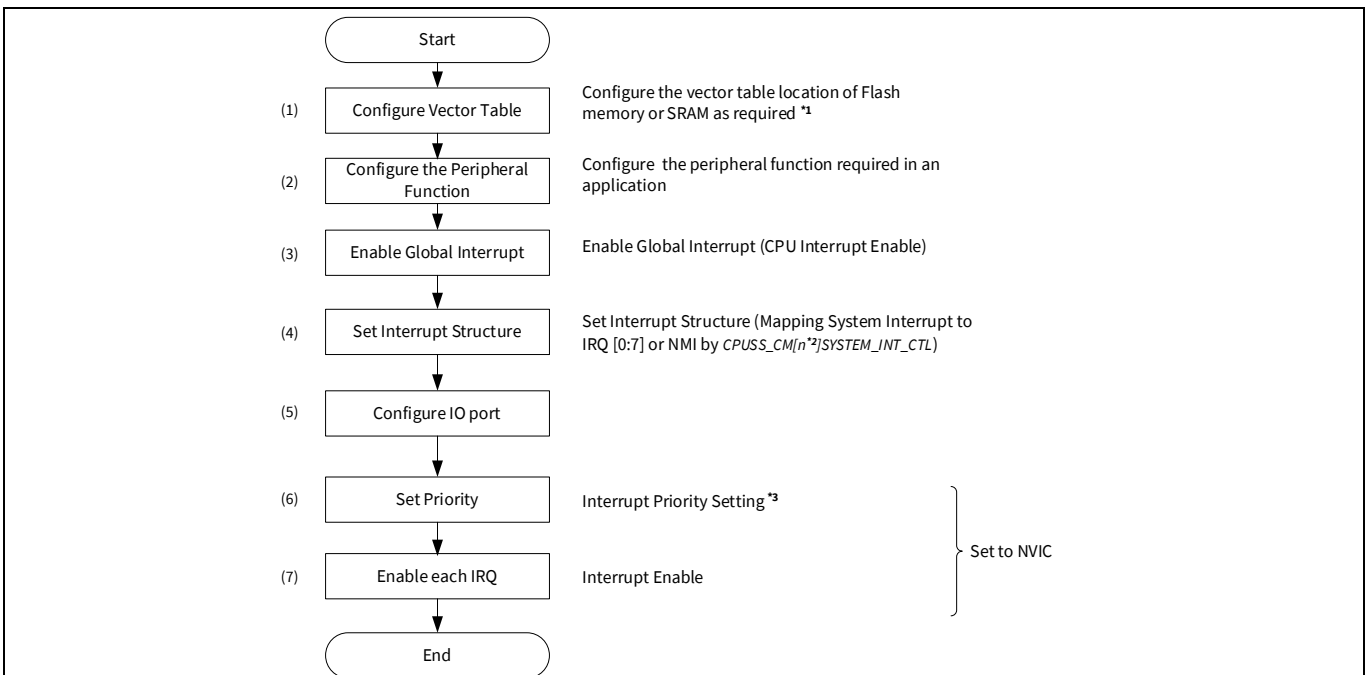

Figure 4 Interrupt Initial Setting Flow
You can configure the configuration part according to your system. Figure 4 shows the initializing interrupts.
*Note: (*2) “n” in Figure 4 indicates 0, 4. For example, CPUSS_CM4_SYSTEM_INT_CTL shows system interrupt control register for CM4. The CYT2 series have CPUSS_CM4_SYSTEM_INT_CTL and CPUSS_CM0_SYSTEM_INT_CTL registers. The CYT3 and CYT4 series have CPUSS_CM7_0_SYSTEM_INT_CTL, CPUSS_CM7_1_SYSTEM_INT_CTL (only CYT4 series) and CPUSS_CM0_SYSTEM_INT_CTL registers. See the Registers TRM [\[2\]](#) for more information.*